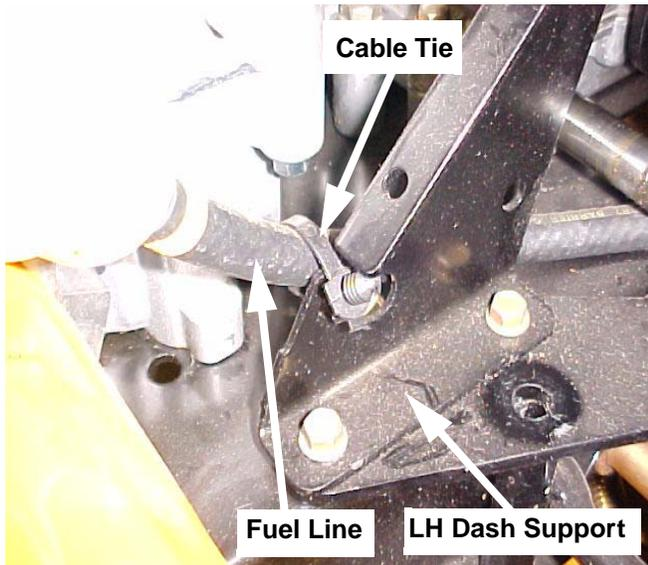

FIGURE 10
14. Cut the cable tie securing the fuel line to the LH dash support. See Figure 10.